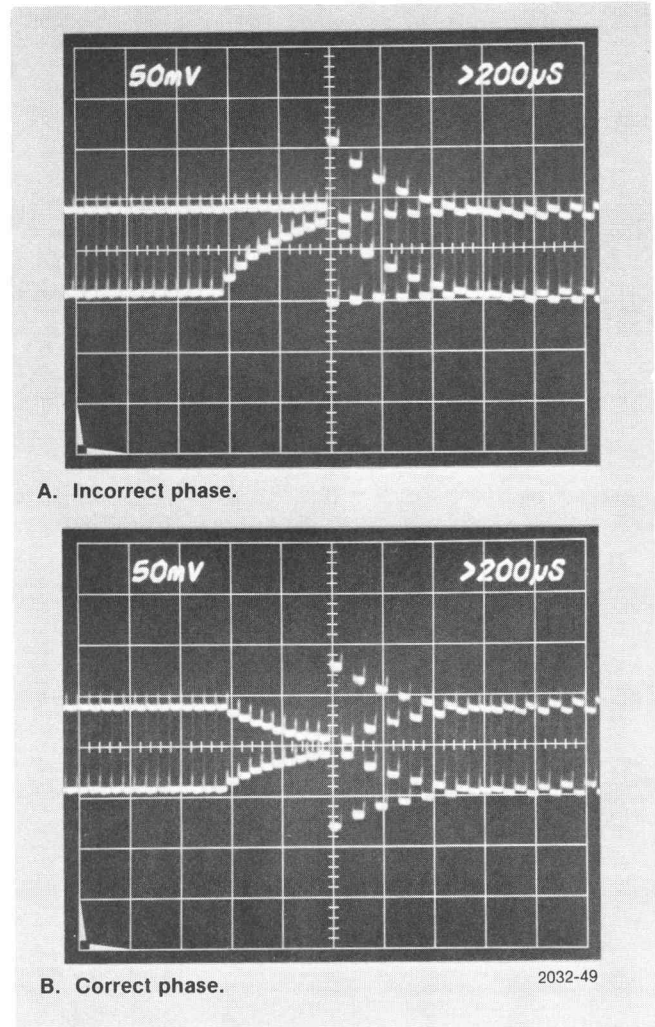

Fig. 4-19. 1421, 1422—DC Balance adjustment.
a. Connect the 10X probe from the Test Oscilloscope to TP1544. (See Fig. 4-19.) Turn the Video Generator Bruch Sequence off.
b. Check—The crossover point of two successive field sync pulses, time overlayed, should be 0 V dc (see Fig. 4-19).